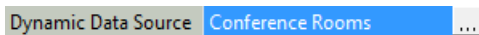

FIG. 172 Dynamic Data Source property indicating "conference.csv"
4. The selected Data Source file is indicated in the *Dynamic Data Source* property (see "Conference Rooms" in FIG. 172):